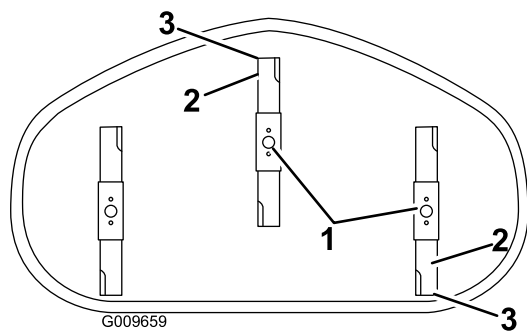

Figure 61
3. Carefully rotate the blades so they are facing front to rear (Figure 61).
4. Measure from the tip of the front blade to the flat surface and the tip of the rear blade to the flat surface (Figure 61). If the front blade tip is not 1/16-5/16 inch (1.6-7.9 mm) lower than the rear blade tip, continue to the Leveling the Mower Deck procedure.